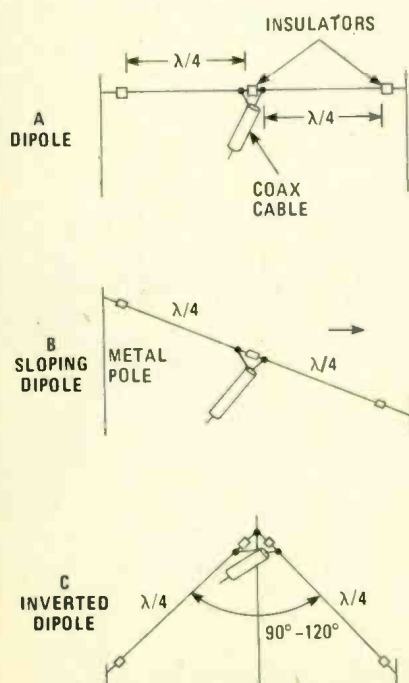

FIG. 1—TYPES OF DIPOLES
Each of the commonly used RS-232 connections has a light-emitting diode (LED) status indicator. LED1 through LED7 are red. LED8 is yellow or green, or anything else easily distinguished from red. Any light-emitting diode that is *on* indicates a normal *high* on the circuit. If the LED is not *on*, the circuit is *low*. If the LED flickers, it's an indication that there is data being transmitted on the circuit. For example, when feeding a modem, the status 3 light-emitting diode (LED3) will flicker when keys are pressed. (Note: in Fig. 1 the practice of numbering LED's consecutively has been discontinued in favor of having the LED's symbol designation coincide with the RS-232 signal line. Thus, line 20 is common to LED20 with a LED panel marking of "20" on the box.) Similarly, LED2 will flicker when the modem passes data to the computer. Actually, when using a full-duplex modem, LED3 will flicker followed almost immediately by a flicker from the LED2 as the modem receives the echo of the keyboard entry from the host computer.
As shown in Fig. 1, three connections pass through the
The schematic diagram (Fig. 1) for the RS-232 Breakout Box doesn't show the DB-25 connectors used for input and output connection, because you must select the type that fits your needs. In actual fact, either the A or B connections can be the input or output. The most common arrangement, however, would be a female connector for the A terminals and male connector for the B terminals.
Dipoles are found in three common forms, as in Fig. 1. The classic dipole (A) is a straight horizontal half-wave length antenna separated into two quarter-wave segments and fed at the center. Another version (B) is called a *sloper*, because of its slant from a high mounting position toward the ground. If a metal mast is used, that style has some directivity in the direction of the slope as shown. The third form (C) is the popular inverted dipole (often called an inverted-V).
The transformer consists of two or more coils of wire wound over a common core of (usually) an iron alloy. Figure 1-A shows the basic transformer configuration. There are two windings shown in Fig. 1A—the primary and secondary
FIG. 1—TYPICAL POWER-SUPPLY transformer configurations are: A—common two-winding type used in the discussions related to equations (1) through (3); B—transformer with multiple secondary windings are used extensively in vacuum-tube electronic device, and power supplies delivering isolated ground circuits; C—multiple primary-winding transformers when connected in parallel accommodate 117-volt AC power lines; D—and when connected in series, accommodates 220-volt AC power lines; and E—transformers with tapped primary windings accommodate AC power lines the world over. A switch (or jumper wire) is set to the position that most nearly meets the lines voltage.
Transformers come in configurations other than the basic type shown in Fig 1-A. Other transformer variations are shown in Figs. 1-B through 1-F.